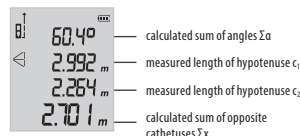

Fig. 7
- In the event of measurement according to fig. 4, the lengths of the opposite cathetuses x_1, x_2 and the individual angles α are calculated. The measured and calculated values of the sums of angles $\Sigma \alpha = \alpha_1 + \alpha_2$ and cathetuses $\Sigma x = x_1 + x_2$ are shown on the display, see fig. 7.